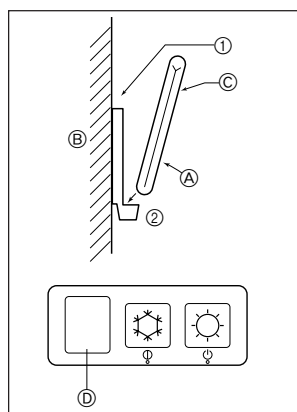
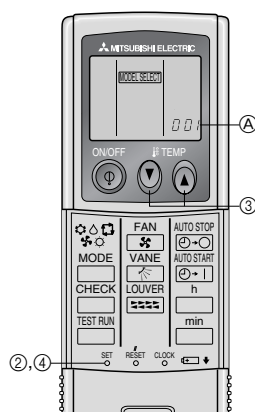

Fig. 7-5
Fig. 7-6
2) Installation method (Fig. 7-5)
① Attach the remote controller holder to the desired location using two tapping screws.
② Place the lower end of the controller into the holder.
- ① Remote controller
- ② Wall
- ③ Display panel
- ④ Receiver
3) Setting (Fig. 7-6)
① Insert batteries.
② Press the SET button with something sharp at the end.